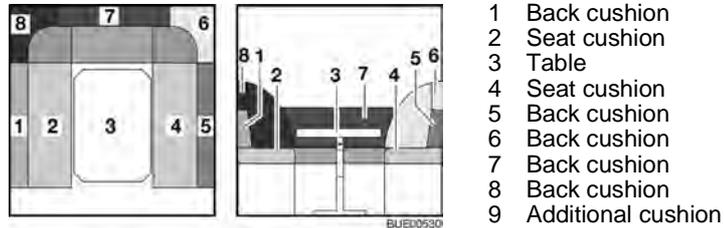

Fig. 86 Prior to conversion
- Convert the table (Fig. 86,3) to a bed foundation (see section 6.11).